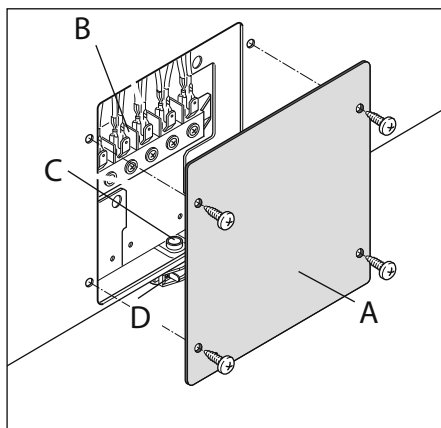
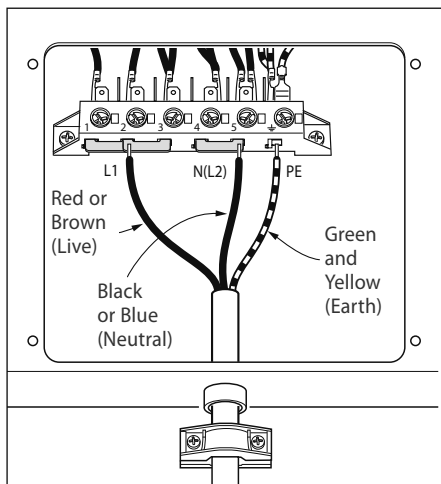
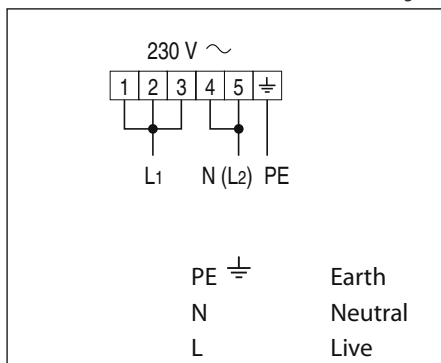

Fig. 7a
Fig. 7b
Fig. 7c
- Check the position of the U bolts on the terminal block "B" (Fig. 7a) according to the diagram in Fig. 7b and Fig. 7c.
- Connect the phase and earth cables to terminal "B" according to Figs. 7b and 7c.